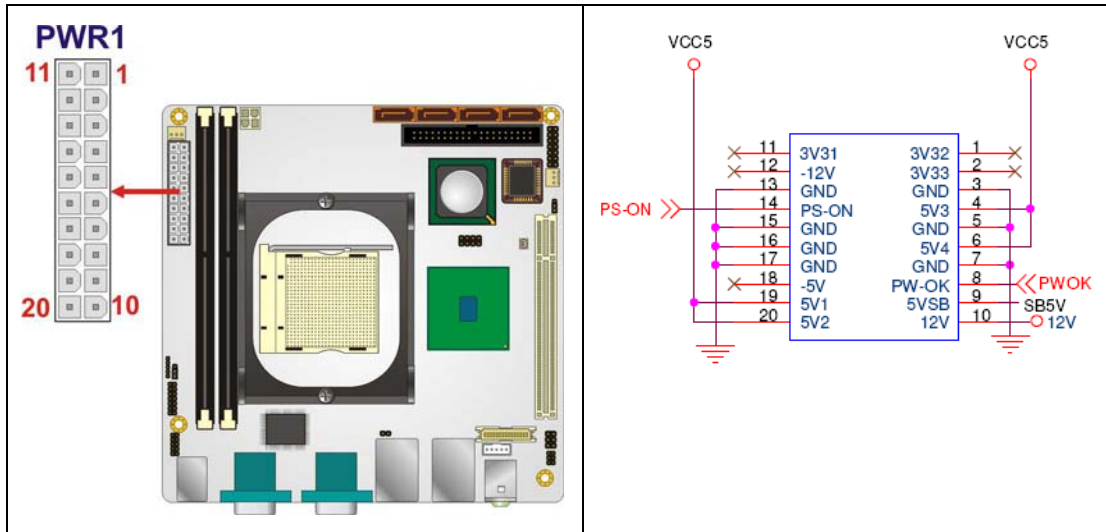

Figure 4-2: ATX Power Connector (20-pin) Pinout Locations
- CN Location:** See **Figure 4-2**